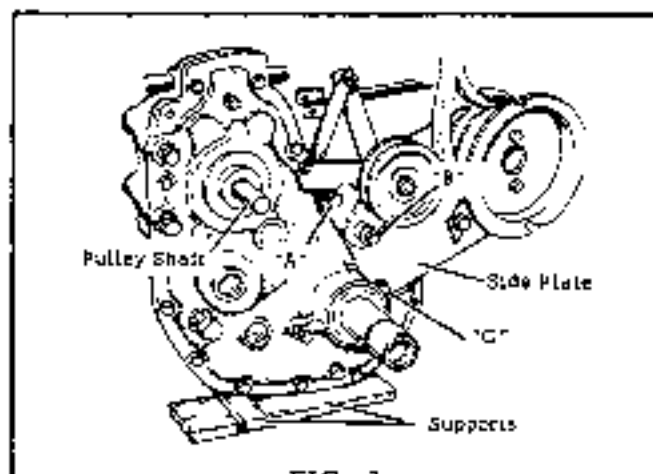

FIG. 2
2. Position the transmission case on supports so that hole "C" on R.H. side of transmission lines up with the mounting hole of side plate. See Fig. 2. Insert the cap screw and tighten partially. Hold the pulley shaft with one hand and by using your knee for a brace, position